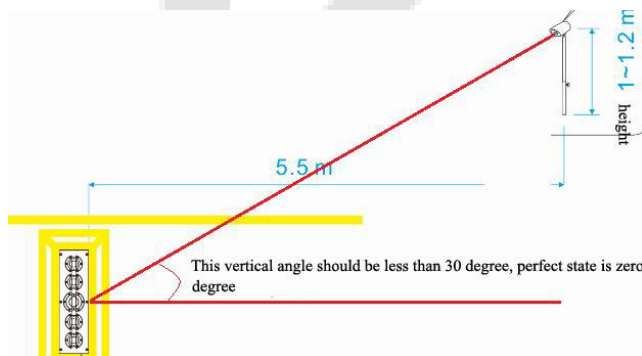

Figure 5-2
- 2) plate number clearly, plate number camera and scanning units vertical angle is less than 30 degree, perfect state is zero degree. See the Figure 5-2.